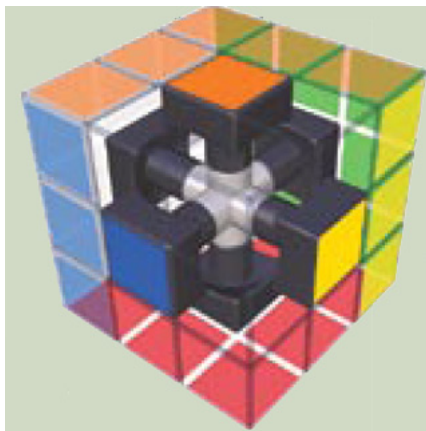

Figure 3: Cutaway Diagram
**6 Centre Pieces** These pieces are at the centres of the cube faces. They feature one colour each. As can be seen in Figure 3, these pieces are always stationary relative to one another.
1For example, in Figure 3, the blue-orange edge would go between the blue and orange centres. Since blue and green are opposite to each other, there is no blue-green edge.